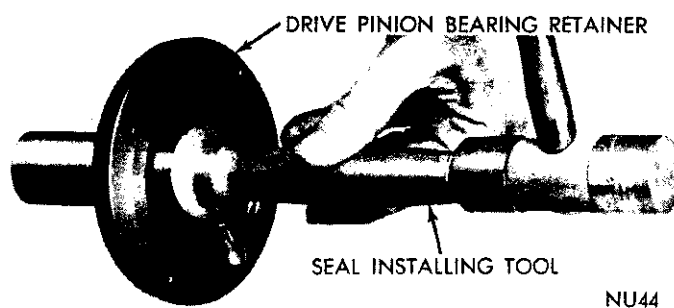

Fig. 38—Replacing Seal in Drive Pinion Bearing Retainer
(14) Place 3rd and 4th synchronizer sleeve in neutral position.
(15) If everything is in proper position the extension housing will bottom to the case gasket without force. If not, check to see if a strut, pinion roller, or stop ring is out of position.
(16) Install extension housing bolts and tighten to 50 foot-pounds.
(17) Using Tool C-3789 or C-3801 for heavy duty model (Fig. 38), install a new oil seal in retainer bore. Install main drive pinion bearing retainer and gasket. Coat threads with sealing compound, then install attaching bolts and tighten to 30 foot-pounds (Fig. 2).